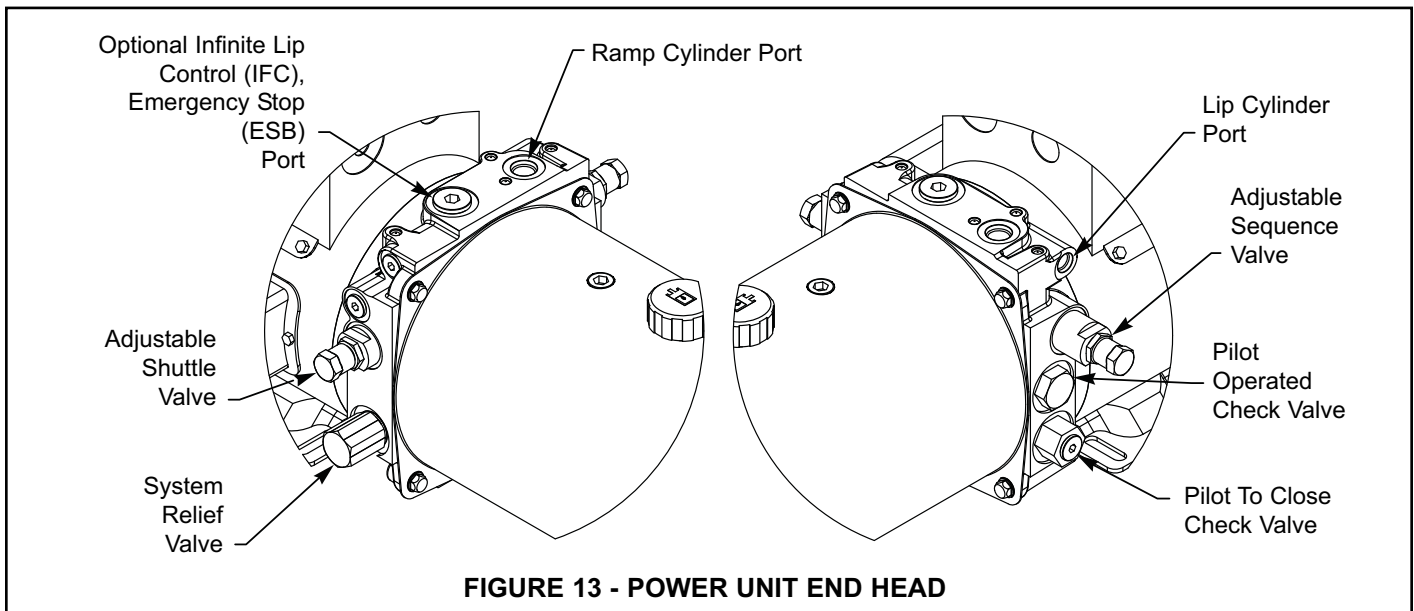

FIGURE 13 - POWER UNIT END HEAD
2. Remove protective cap and O-ring. Loosen locknut; without turning valve body or adjustment screw. Turn adjustment screw to vary platform lowering speed. See Figure 13.